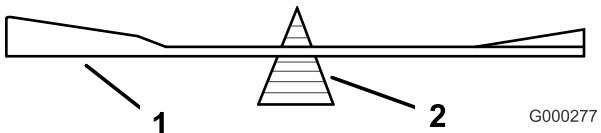
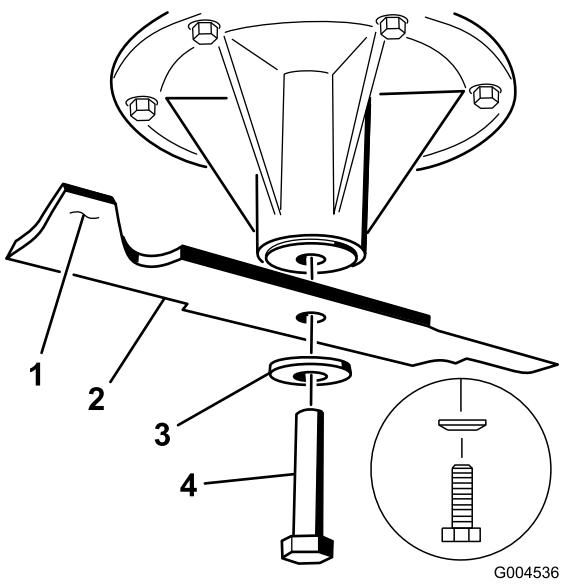

Figure 57
Figure 58
2. Check the balance of the blade by putting it on a blade balancer (Figure 57). If the blade stays in a horizontal position, the blade is balanced and can be used. If the blade is not balanced, file some metal off the end of the sail area only (Figure 58). Repeat this procedure until the blade is balanced.
1. Install the blade onto the spindle shaft (Figure 58).
2. Install the spring disk and blade bolt. The spring disk cone must be installed toward the bolt head (Figure 58). Torque the blade bolt to 85-110 ft-lb (115-150 N•m).